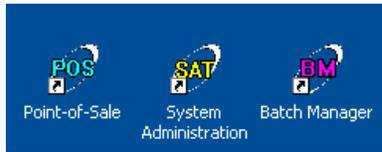

Figure 2.14
27. Upon a successful installation, three shortcut icons to the POS program (POS –Point-of-Sale, SAT– System Administration, and BM - Batch Manager) appears on the PC desktop (Figure 2.14). The version number can also be verified by signing on to the SAT, POS, or Batch Manager and clicking **'Help'**, **'About PCC OTC'** from the menu at top of the screen. Login and password data is retained during the upgrade so users can sign on to the system as they did before the upgrade.